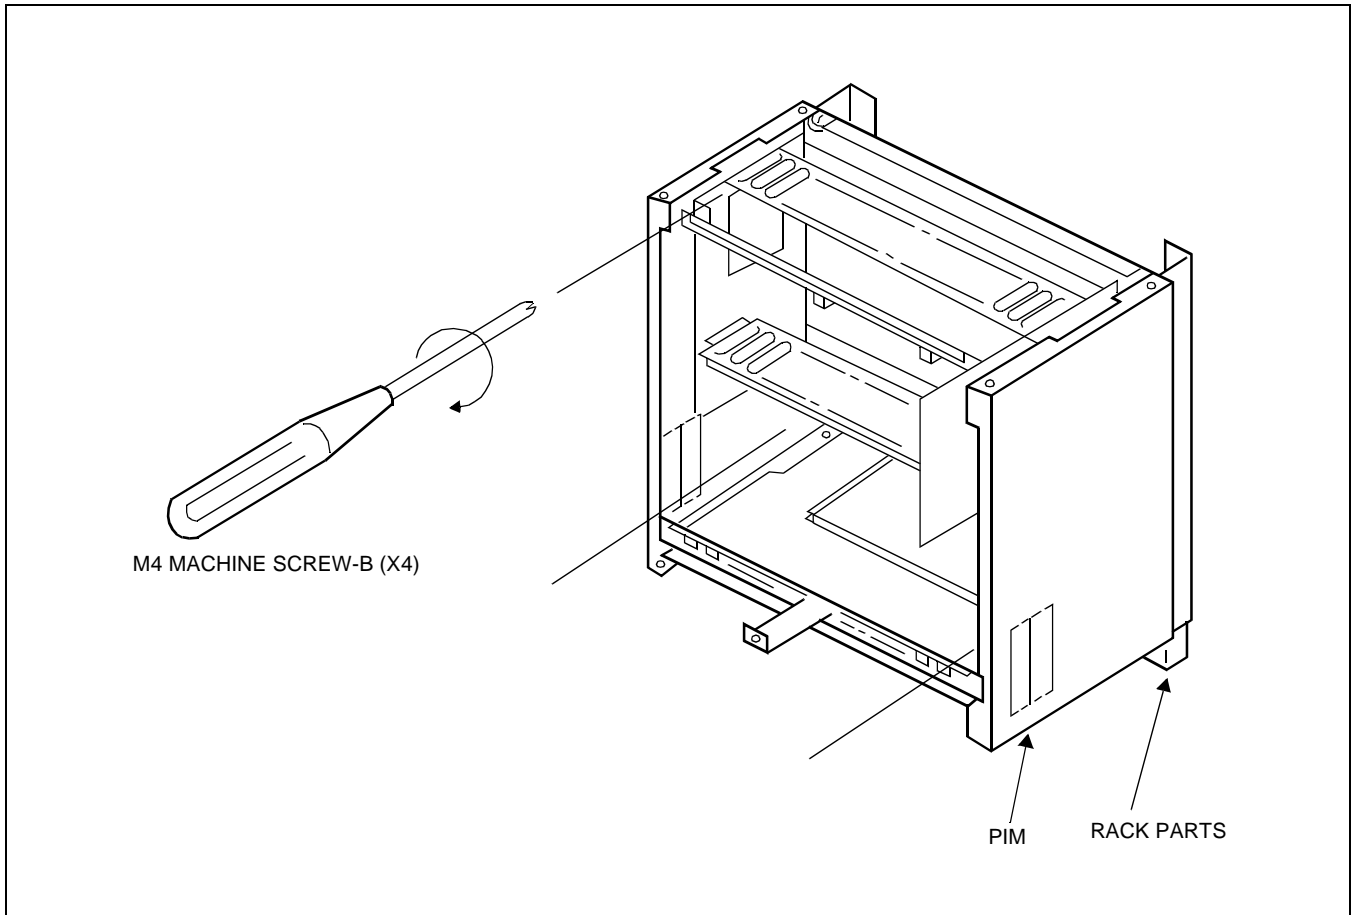

Figure 003-24 Screwing the PIM to the RACK PARTS
- (5) After hanging each PIM onto the RACK PARTS, tighten each M4 machine screw using a Phillips screw driver as shown in Figure 003-24.